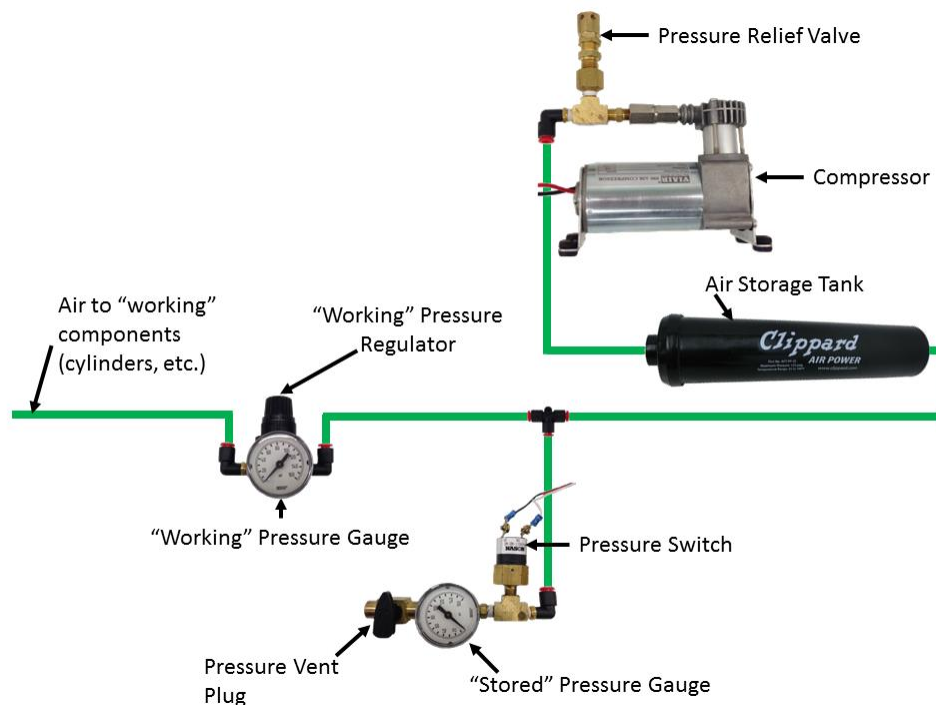

Figure 9-15 Pneumatic circuitry
**R78.** If pneumatic COMPONENTS are used, the following items are required as part of the pneumatic circuit and must be used in accordance with this section, as illustrated in Figure 9-15.
- A.** One (1) *FIRST* Robotics Competition legal compressor (per R79)